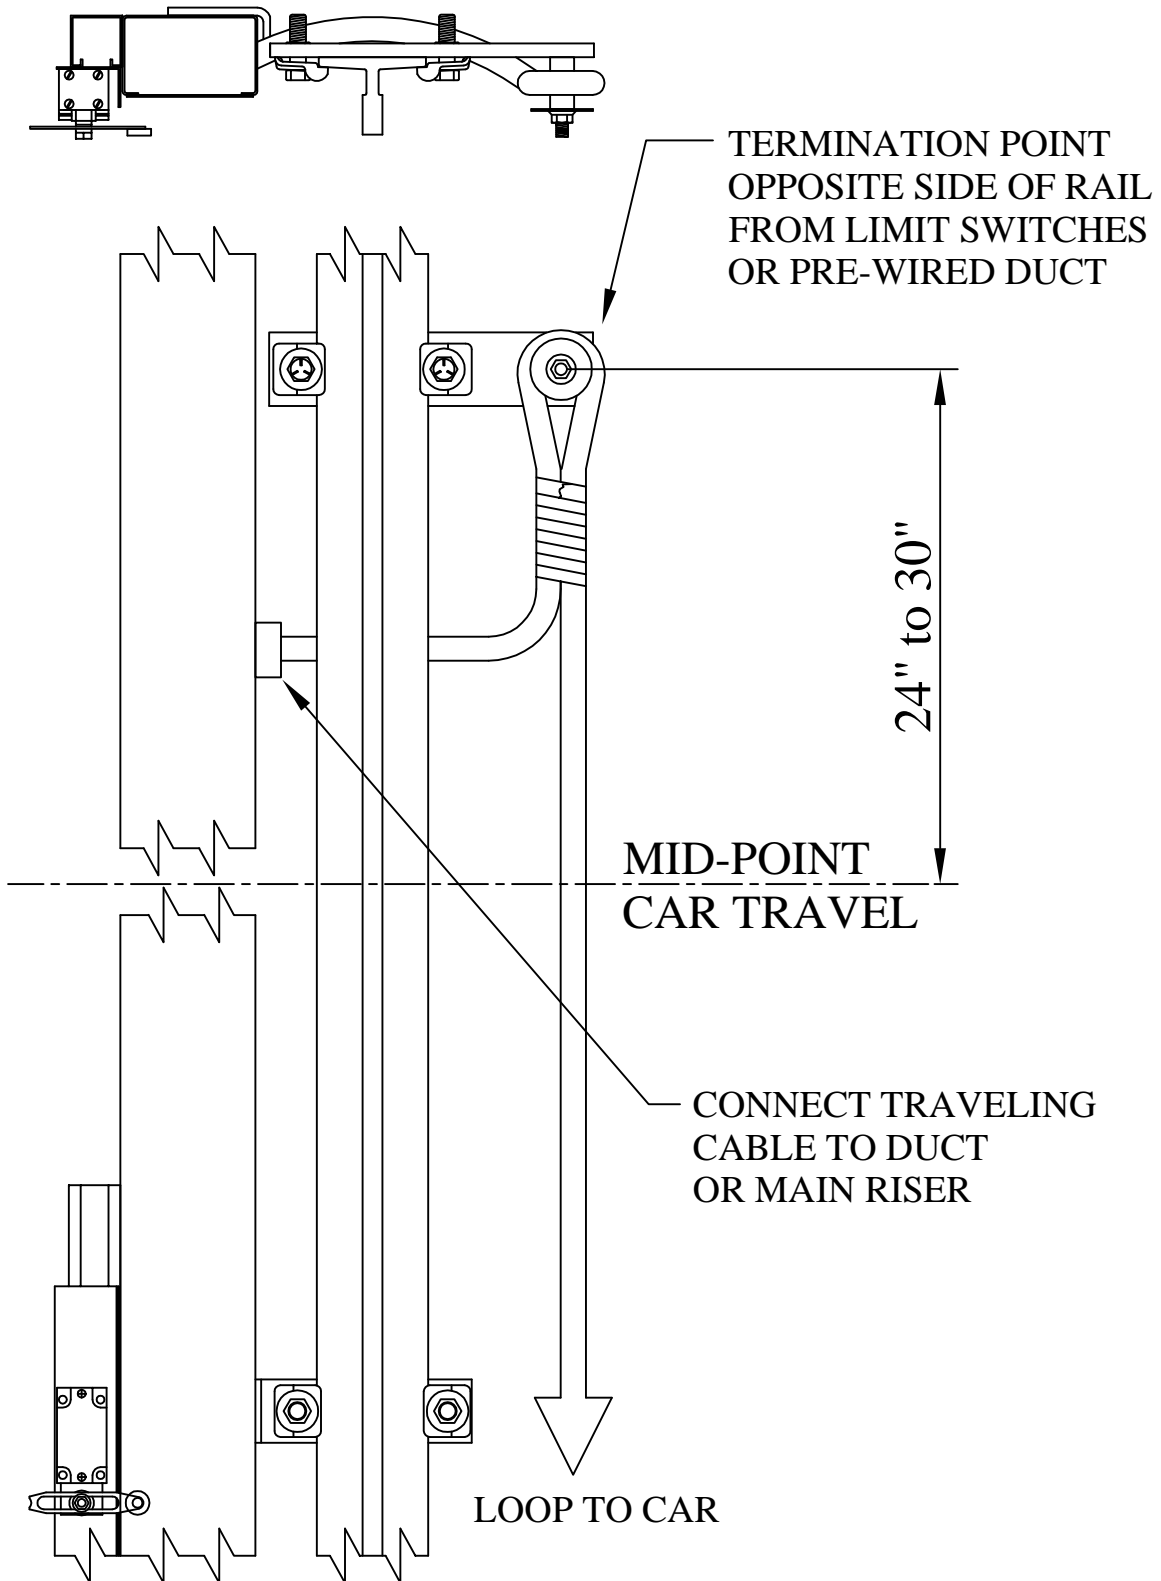

FIG 11-1
- 11c.** Tie traveling cable to mounting post on hanger bracket as shown below. Allow enough cable to reach main riser or pre-wire duct before tying off. **See Fig 11-1**